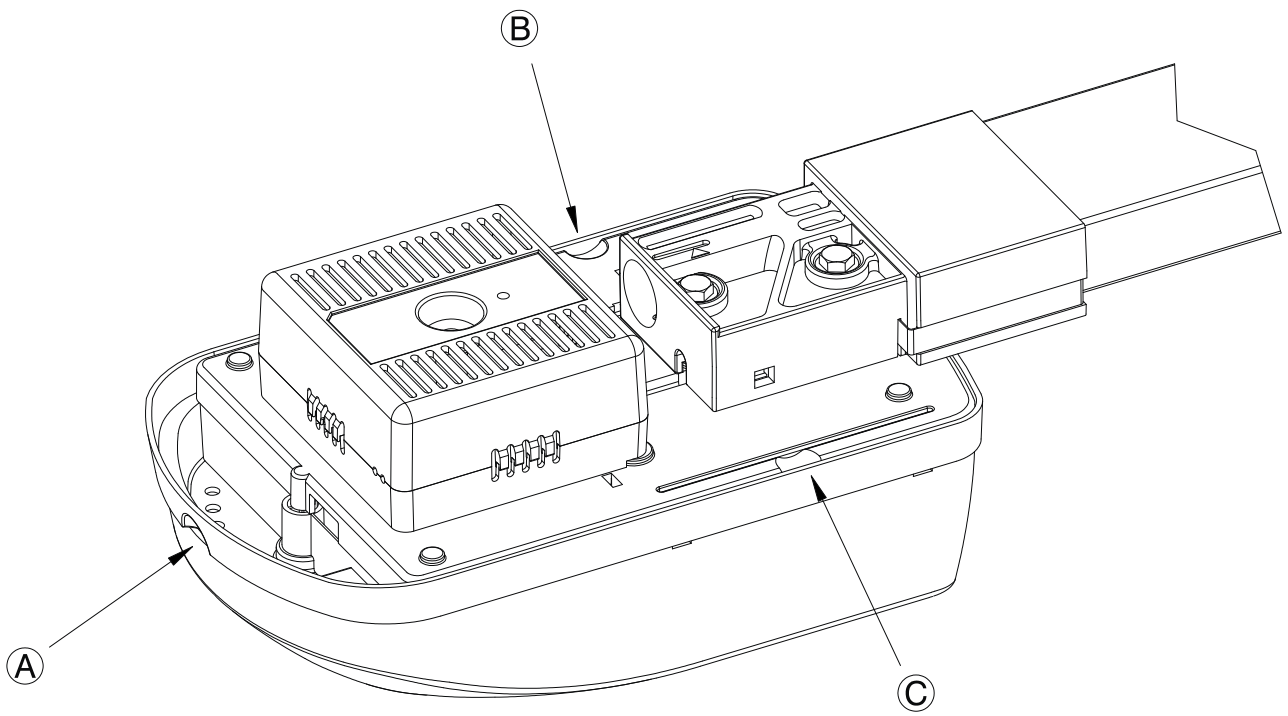

Fig. 17
- ii. open the Courtesy Lamp Cover by pulling it down at the finger recess point (Fig.17-A)
- iv. remove the Control Box Cover by pulling first **outwards** and then **downwards** at the finger recess points (Fig.17-B & C)